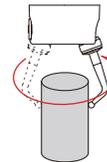

Figure 2
- Loosening the locking screw (Figure 2) allows the probe position to be adjusted to suit the diameter of the workpiece, so that the probe is in contact with the wall of the workpiece being measured and the gauge has a certain amount of preload.